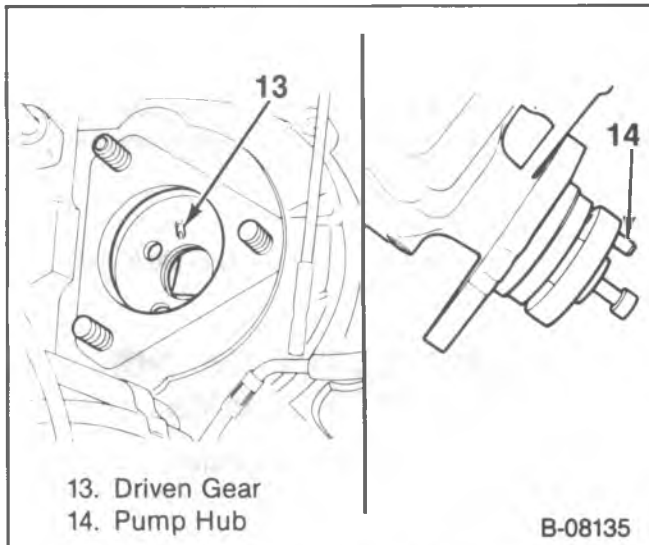

Figure 12—Injection Pump Locating Pin
1. New gasket (12).
- Align the locating pin on the pump hub (14) with the slot in the injection pump driven gear (13) (figure 12).
- Align the locating pin on the pump hub with the slot in the injection pump driven gear (figure 12).